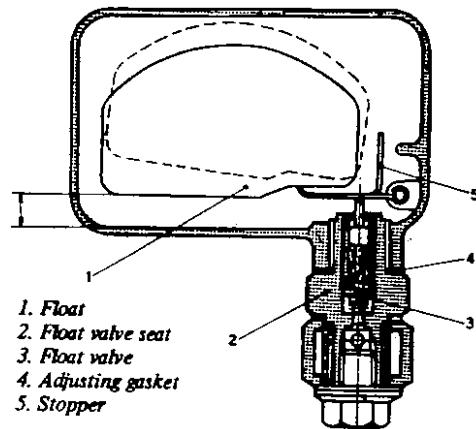

Fig.B.7 Adjusting the fuel level - D3034C carburettor
The fuel level should correspond with the level gauge line. Adjustment can be carried out, if necessary, by changing the gaskets between the float chamber body and needle valve seat. The gaskets are shown as item 4 in Fig.B.7. When correctly adjusted, there should be a clearance of approximately 7 mm (0.027 in.) between float and chamber, as indicated.